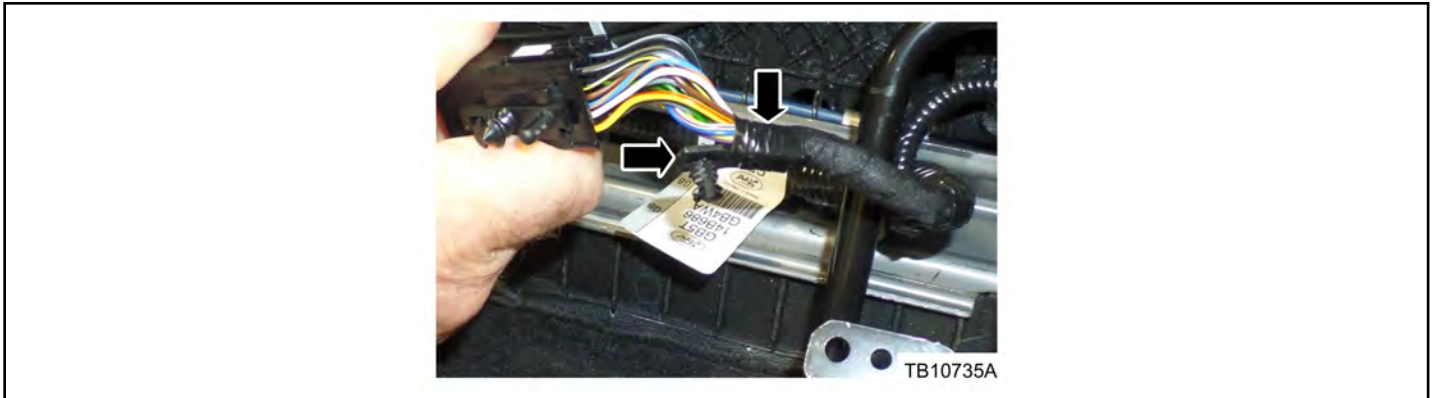

Figure 2 - Article 16-0001
6. On the male side of both connectors where the wiring harness is taped to the harness pushpin retainers, remove the retaining tape and the harness pushpin. Discard the pushpin. (Figure 2)